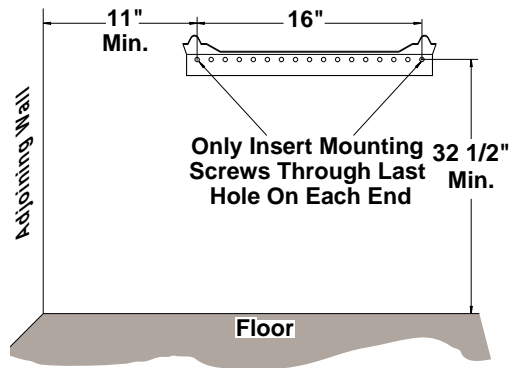

Figure 5 - Mounting Bracket Clearances
Maintain minimum clearances shown in Figure 5. If you can, provide greater clearances from floor and joining wall.
2. Mark screw locations on wall (see Figure 5).